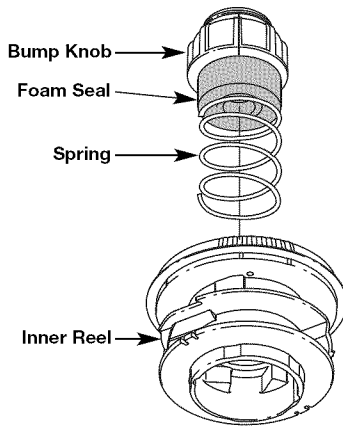

Fig. 18
2. Pull out the bump knob, spring and foam seal (Fig. 18).
7. Place the bump knob, spring and foam seal onto the inner reel (Fig. 18).